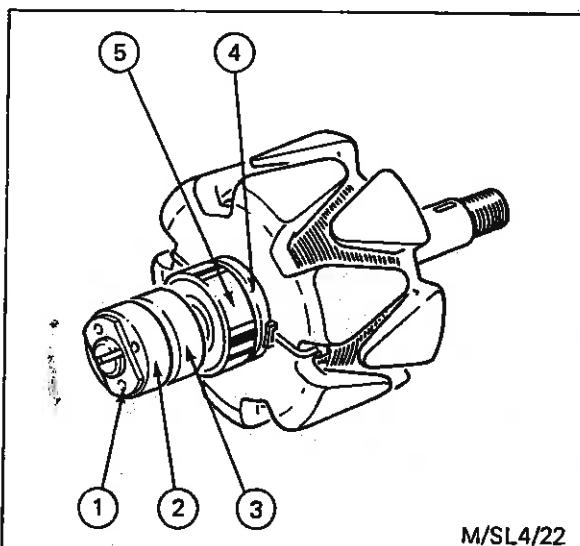

Fig. 35 - Slip Rings and Bearing Renewal -
Unsolder the field winding connection (1) from the outer slip ring (2) - see Fig. 35.